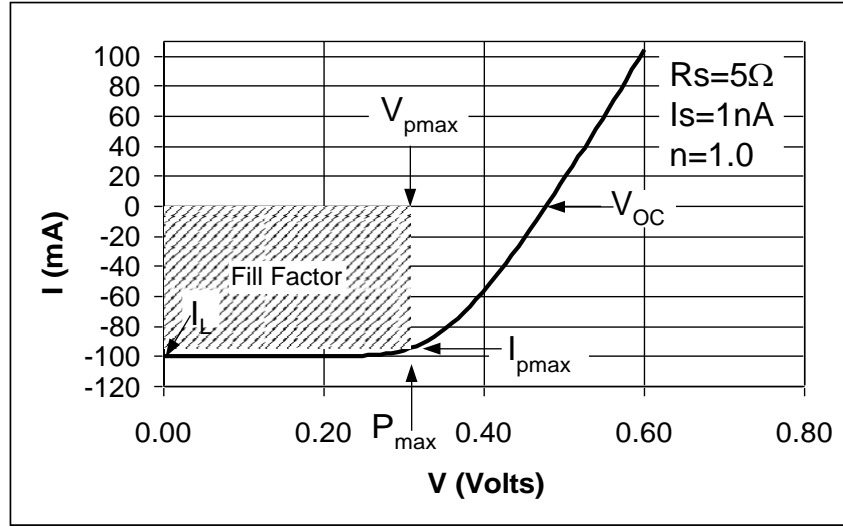

Figure 43: IV response of a solar cell with series resistance showing I_L , V_{oc} , P_{max} , and FF generated from equation 1 after [5].
Equation (3) represents the power extracted from a solar cell. To find the maximum point, the derivative of the power is taken with respect to current and the current that satisfies equation (4) is the current at the maximum power point (Figure 43).